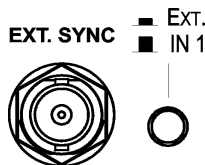

Figure 20: Genlock External Connector and Source Selector Button
The button on the rear panel marked EXT/IN (see item 5 on Figure 2) selects the Genlock source. When pressed in, the Genlock signal is taken from the EXT SYNC connector situated alongside the Genlock source button (see Figure 20). When the switch is released (in the out position), the Genlock is taken from the video input 1 vertical signal.